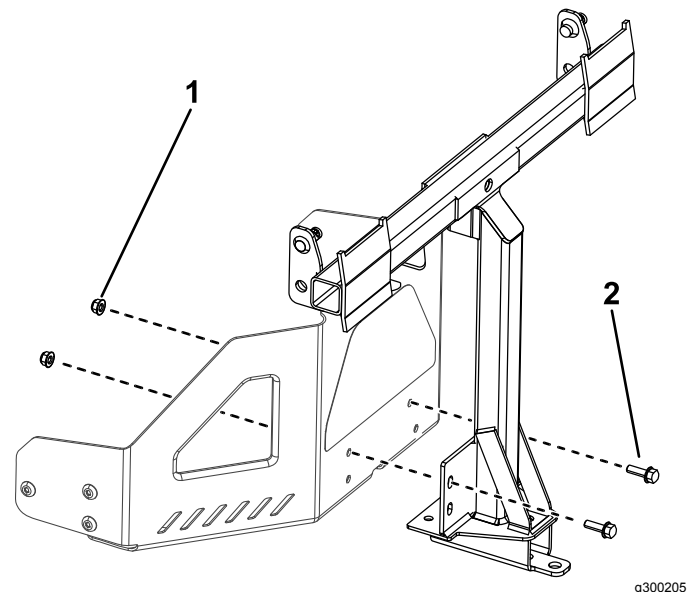

Figure 10
2. Install the pivot frame to the machine frame as shown in Figure 10. Secure the pivot frame to the machine frame using 2 bolts (5/16 x 1 inch) and 2 locknuts (5/16 inch).